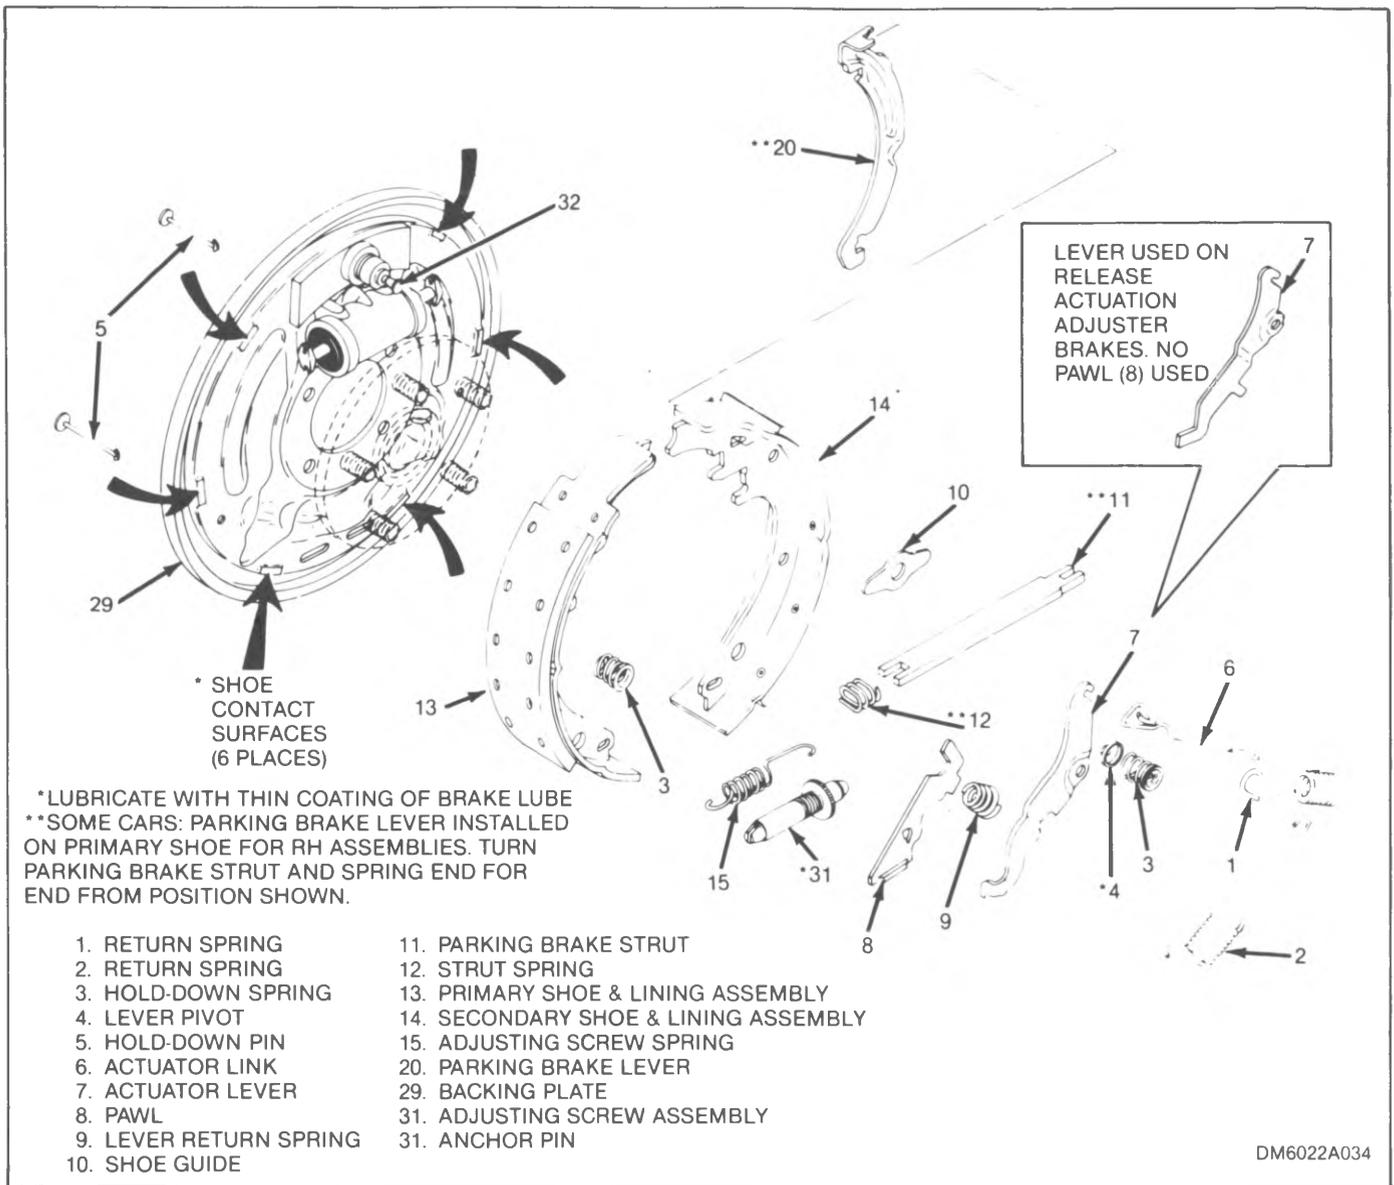
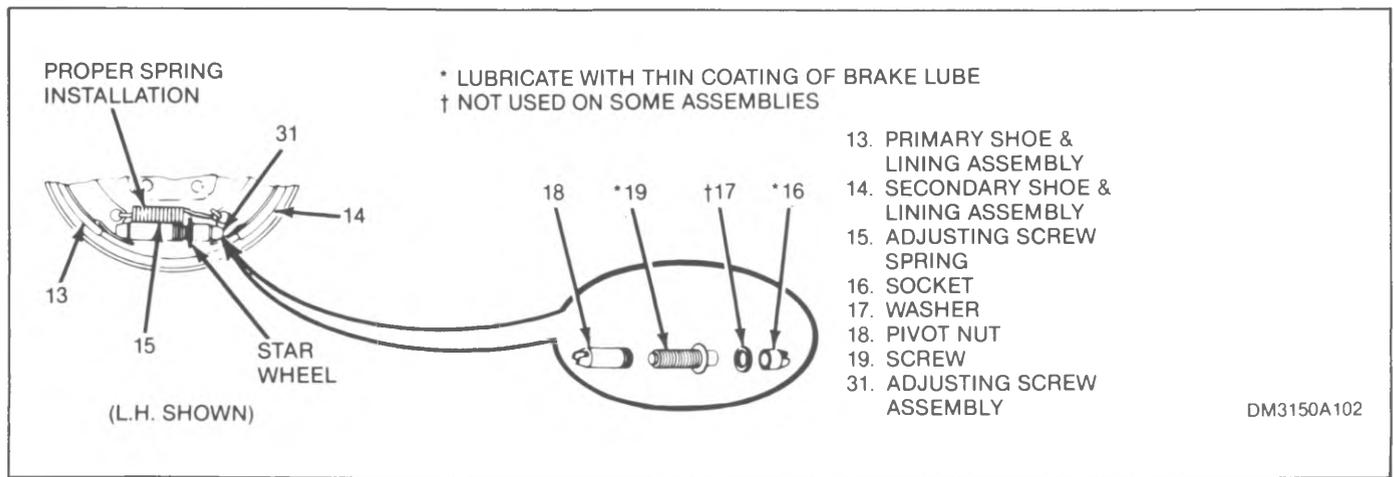

Figure 3-14. Brake Components
Figure 3-15. Adjusting Screw and Spring
3-19. CONVENTIONAL DUO-SERVO DRUM BRAKE. Refer to figures 3-12, and 3-13 for identification of parts for the conventional drum brakes. The automatic adjuster actuator lever variations shown are described in paragraphs 1-8 thru 1-10. After removing brake drums (refer to paragraph 3-14), proceed as follows to remove and replace brake shoes and hardware (see figure 3-14):
16. Disassemble the adjusting screw assembly (see figure 3-15) and clean parts in clean denatured alcohol. Make sure that the adjusting screw threads into the pivot nut over its complete length without sticking or binding. Check that none of the adjusting screw teeth are damaged.
17. Apply brake lube to adjusting screw (19) threads, inside diameter of socket (16) and socket face. Adequate lubrication is achieved when a continuous bead of lubricant is produced at open end of pivot nut (18) and socket after parts are assembled and threads fully engaged. Install washer (17) if found on unit at disassembly.
19. Install parking brake lever (20, figure 3-14) by hooking lever tab into slot in secondary shoe (14).
20. Install adjusting screw assembly (31) and spring (15) between shoes (13 and 14) as shown in figure 3-15. Coils of spring must not be over star wheel. Left and right hand springs are different. Do not interchange.
21. Spread brake shoes (13 and 14) to clear axle flange, connect parking brake cable to lever (20), and install parts on backing plate (29).
22. Install parking brake strut (11) and strut spring (12) by spreading shoes (13 and 14) apart.
NOTE: For right rear brakes with rear entry parking brake cable and parking brake lever (20) installed on primary shoe (13), turn strut (11) and spring (12) end for end from that shown in figure 3-14.
23. Make sure strut (11) is properly installed. End without spring (12) engages parking brake lever (20). End with spring engages opposite brake shoe.
24. Install shoe guide (10).
25. Install actuator lever (7), pawl (8) (where used) and lever return spring (9).
26. Lubricate lever pivot (4). Install hold-down pins (5), lever pivot and hold-down springs (3).
27. Install actuator link (6) on anchor pin (32).
28. Lift up actuator lever (7) and hook link (6) into lever.